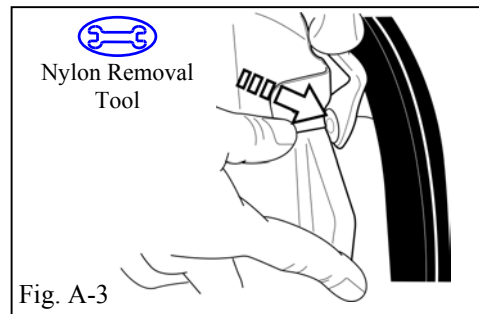

Fig. A-3
- ➔ iii. Remove and discard the retaining clip with the nylon removal tool as shown. (Fig. A-3)